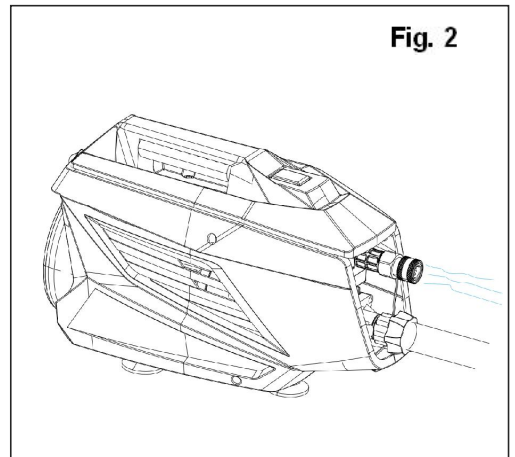

Fig. 2
3. Confirm water can get out (Fig. 2).